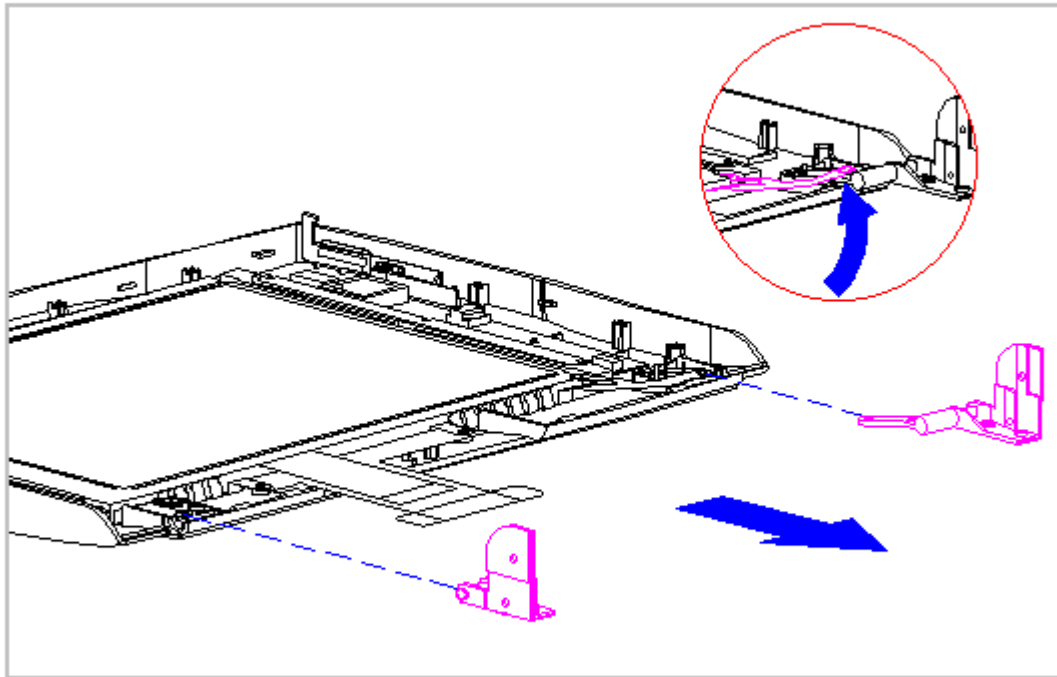

Figure 3-190. Removing the Clutches from Underneath the Display Shield (All Models)
14. On either side of the display enclosure, slide the clutches from underneath the display shield tabs (Figure 3-190).